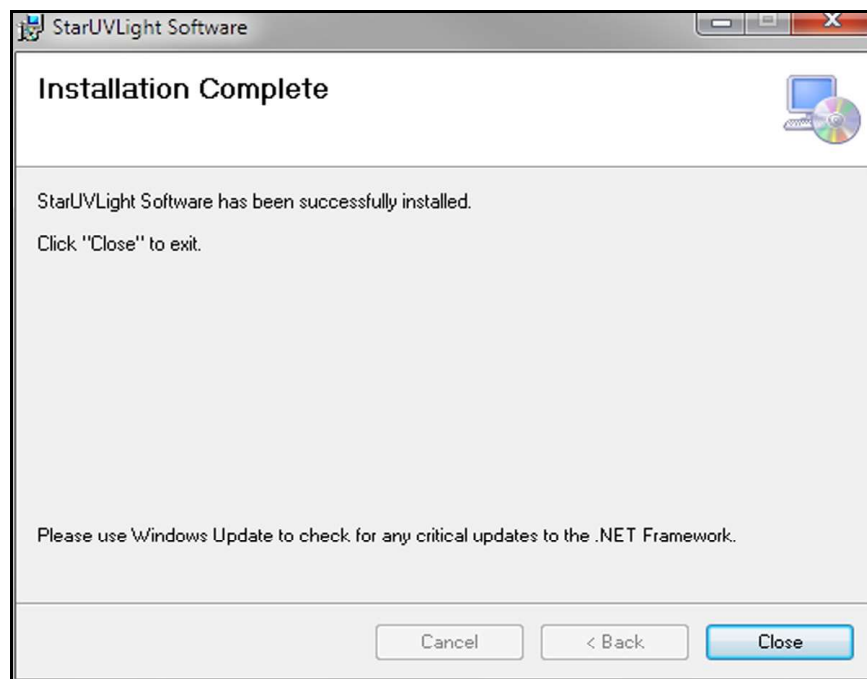

Figure 3-4: Last screen of the UV Light software installation
7. The installation will commence and a progress bar will be shown and then an "Installation Complete" window will pop-up (Figure 3-4). Click the "Close" button.